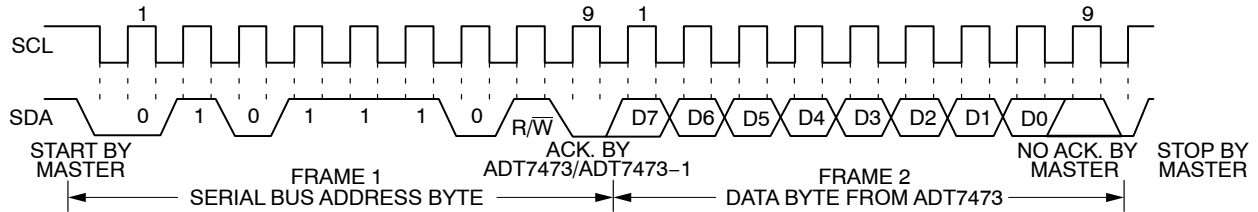

Figure 19. Reading Data from a Previously Selected Register
2. If the address pointer register is known to be already at the desired address, data can be read from the corresponding data register without first writing to the address pointer register, as shown in Figure 19.